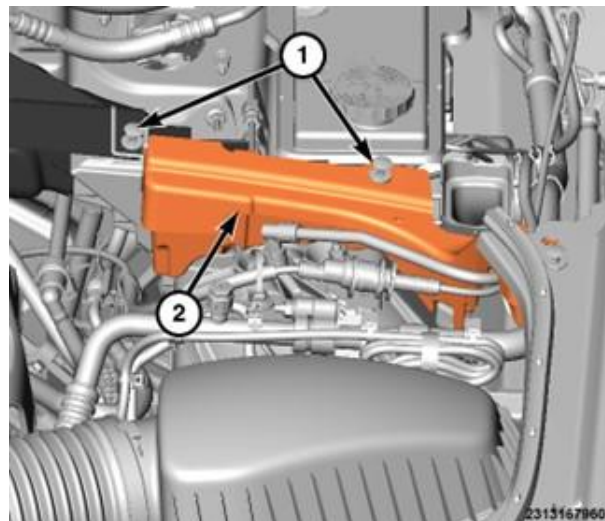

Figure 31 – Foam Seal
- m) Remove the fasteners (1) and remove the foam seals (2) from each side (Figure 31).
- d. Foam seal (2) and fastener (1) (Figure 31).